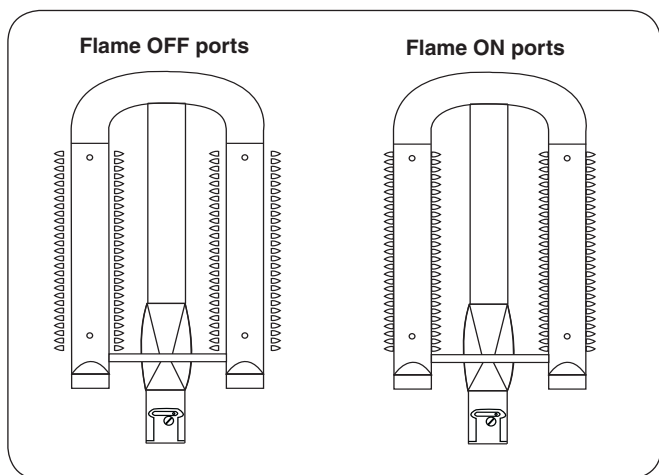

Fig. 35-1 Flame appearance diagram
Flames from a properly adjusted main burner with no wind or breeze present will appear fairly steady, consistent, and mostly blue. If the tip of a flame were to turn orange, it should only do so briefly and then become blue again. The flames will appear to burn while touching the burner ports (see Figure 35-1).
6. Repeat steps 1-5 until the flames appear to touch the burner ports, burning fairly steadily and mostly blue (see Fig. 35-1).